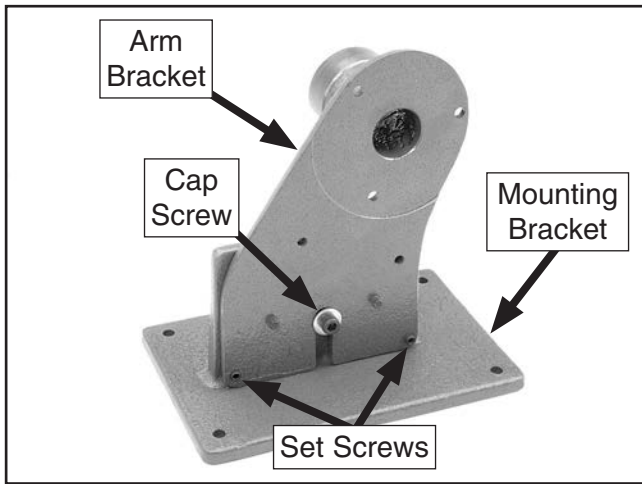

Figure 9. Left side of pivot arm bracket assembly.
2. Secure the adapter to the motor assembly with (3) $\frac{1}{4}$ "-20 x $\frac{1}{2}$ " cap screws.
3. Back out the cap screws and set screws in the pivot arm mounting bracket and the pivot arm bracket, then slide the arm bracket onto the mounting bracket, as shown in **Figures 9–10**.
7. Loosen the three cap screws of the pivot arm bracket assembly (see **Figures 9–10**), then use the mounting hardware you have chosen to firmly secure the motor assembly and the bracket assembly in place.
8. Tighten the four set screws in the arm bracket assembly (see **Figures 9–10**) just until you feel resistance. This will keep the two parts of the assembly stable during operation.